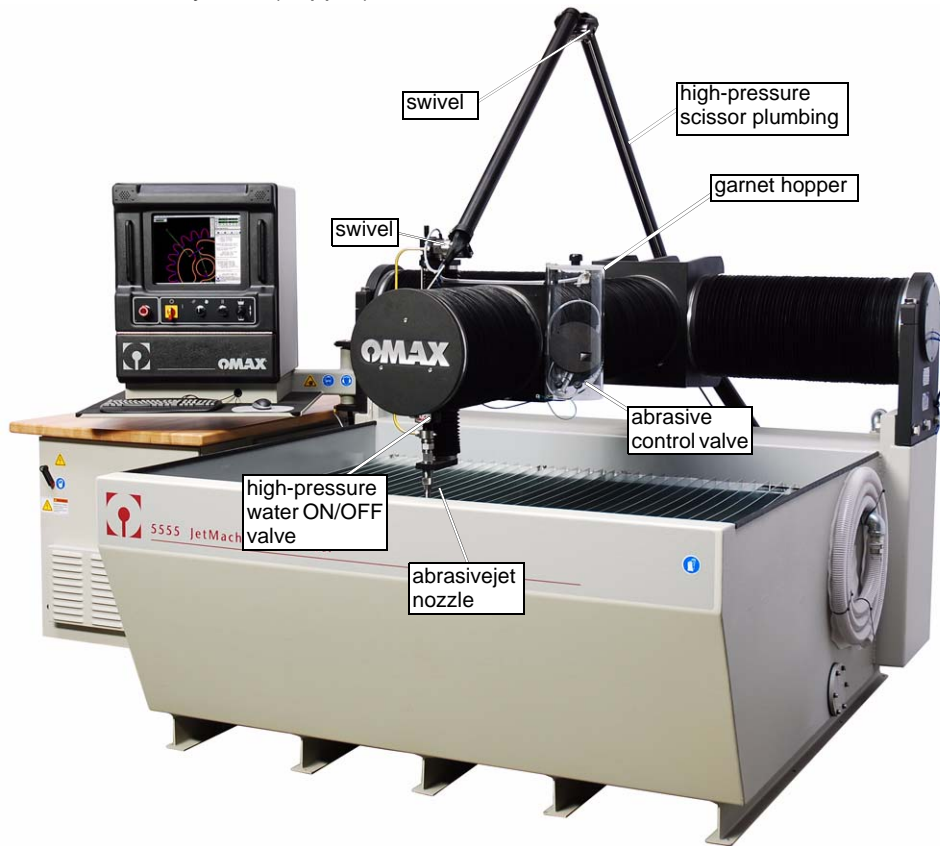

Figure 2-13: JetMachining Center Abrasivejet System Components (5555 illustrated)
- **Abrasivejet delivery system** (Figure 2-13, page 2-7)